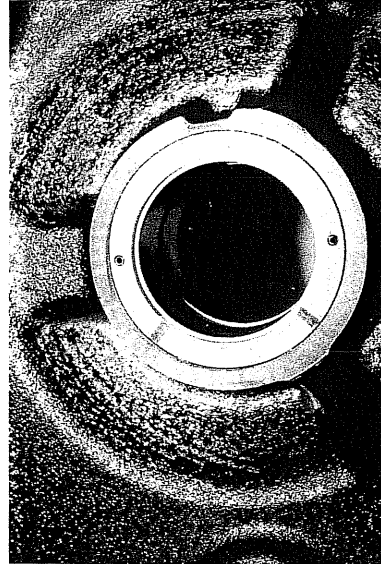

Fig. 68 Shaft seal Side Thrust Washer and Main Bushing
- a) The seal side bearing of Model K compressors is mounted in the crankcase. It is usually unnecessary to remove the seal side bearing unless replacement is required (Fig. 68).